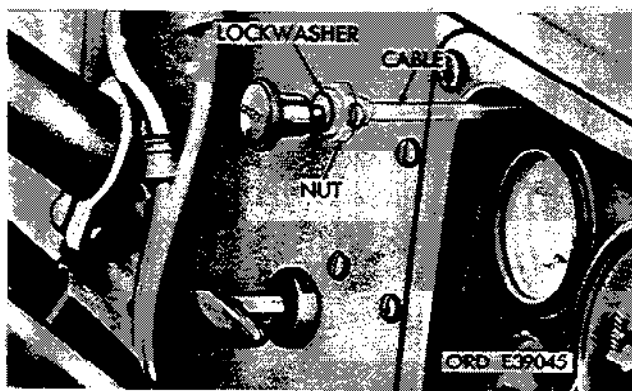

Figure 2-104. Remove choke control cable.
(3) Remove nut and lockwasher behind instrument panel from choke control cable and housing assembly (fig. 2-104).